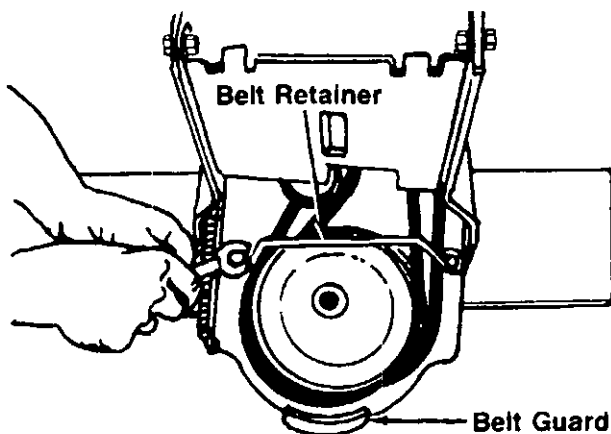

FIGURE 31.
2. Remove the belt retainer, located at the transmission pulley (bottom pulley), by removing two hex bolts and nuts. See figure 31.
3. Remove the belt guard from the bottom of the transmission pulley by removing one hex nut and lock washer from the inside of the mounting plate assembly. See figure 31.